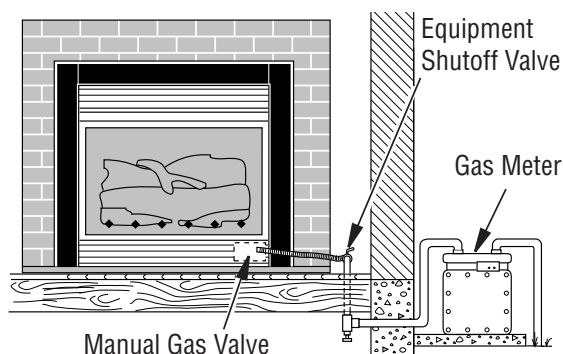
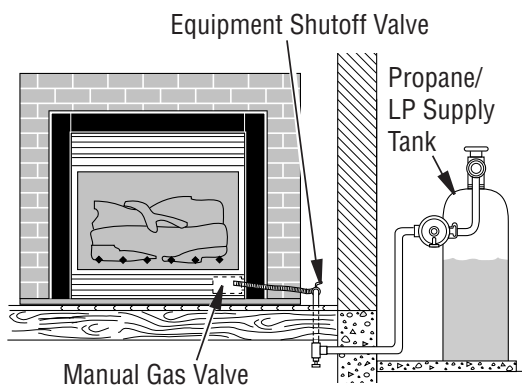

Figure 18 - Checking Gas Joints (Natural Gas)
Figure 19 - Checking Gas Joints (Propane/LP Gas)
3. Check all joints from gas meter to equipment shutoff valve for natural gas (see **Figure 18, Page 13**) or propane/LP supply to equipment shutoff valve for propane/LP (see **Figure 19, Page 13**). Apply a noncorrosive leak detection fluid to all joints. Bubbles forming show a leak.
4. Check all joints from gas meter to equipment shutoff valve for natural gas (see **Figure 18**) or propane/LP supply to equipment shutoff valve for propane/LP (see **Figure 19**). Apply a noncorrosive leak detection fluid to all joints. Bubbles forming show a leak.